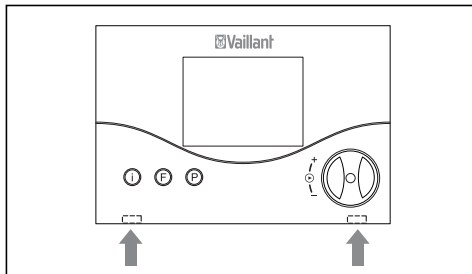

Fig. 4.1 Releasing the locking hook
- Carefully push the locking hook to the side using a screwdriver (Fig. 4.1) and pull the regulator off towards the front.